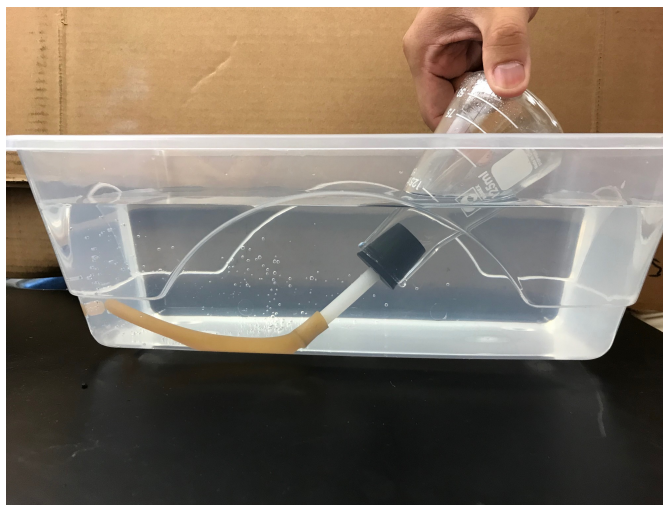

Figure 2. Adjust the water level in the flask to match the level in the bath.
11. To make sure that the pressure of the flask is the same as the atmospheric pressure, raise or lower the flask until the water levels in the flask and in the tray are equal. This will ensure that the experiment is carried out at constant pressure. **(Figure 2)**